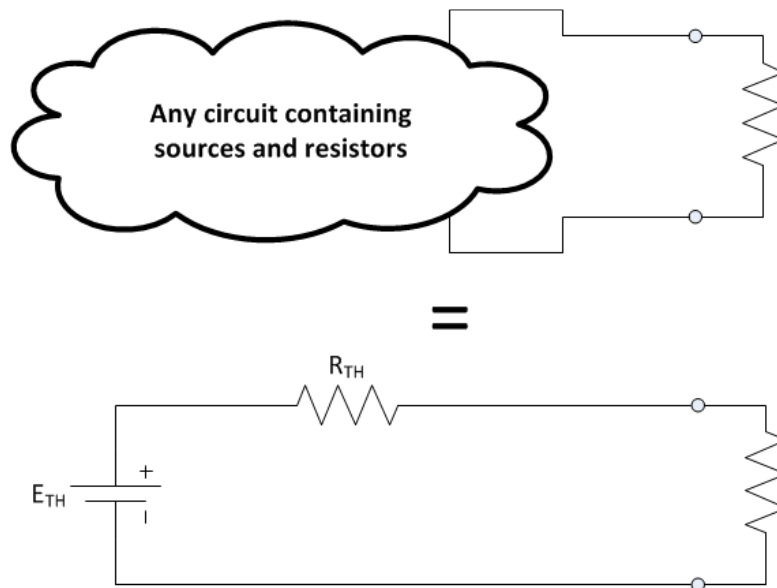

Figure 4.2: Thevenin Equivalent
Thevenin equivalent circuits are an excellent method used to reduce the complexity of circuits. A Thevenin equivalent replaces a segment of a circuit with a series connected voltage source and resistor as shown in Fig. 4.2.
The terminals are used to separate the segment of the circuit that is to be converted from the remainder of the circuit. In Fig. 4.2, all the circuitry to the left of the terminals is replaced with a voltage source of magnitude E_{TH} connected in series with a resistor of magnitude R_{TH} . Note that the circuitry to the right of the terminals can have any complexity and does not necessarily have to be a single resistor.
1. Remove all circuitry that is not part of the conversion. In Fig. 4.2, the resistor to the right of the terminals is removed and replaced with an open circuit.